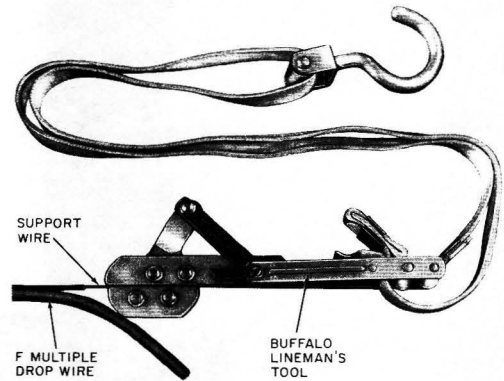
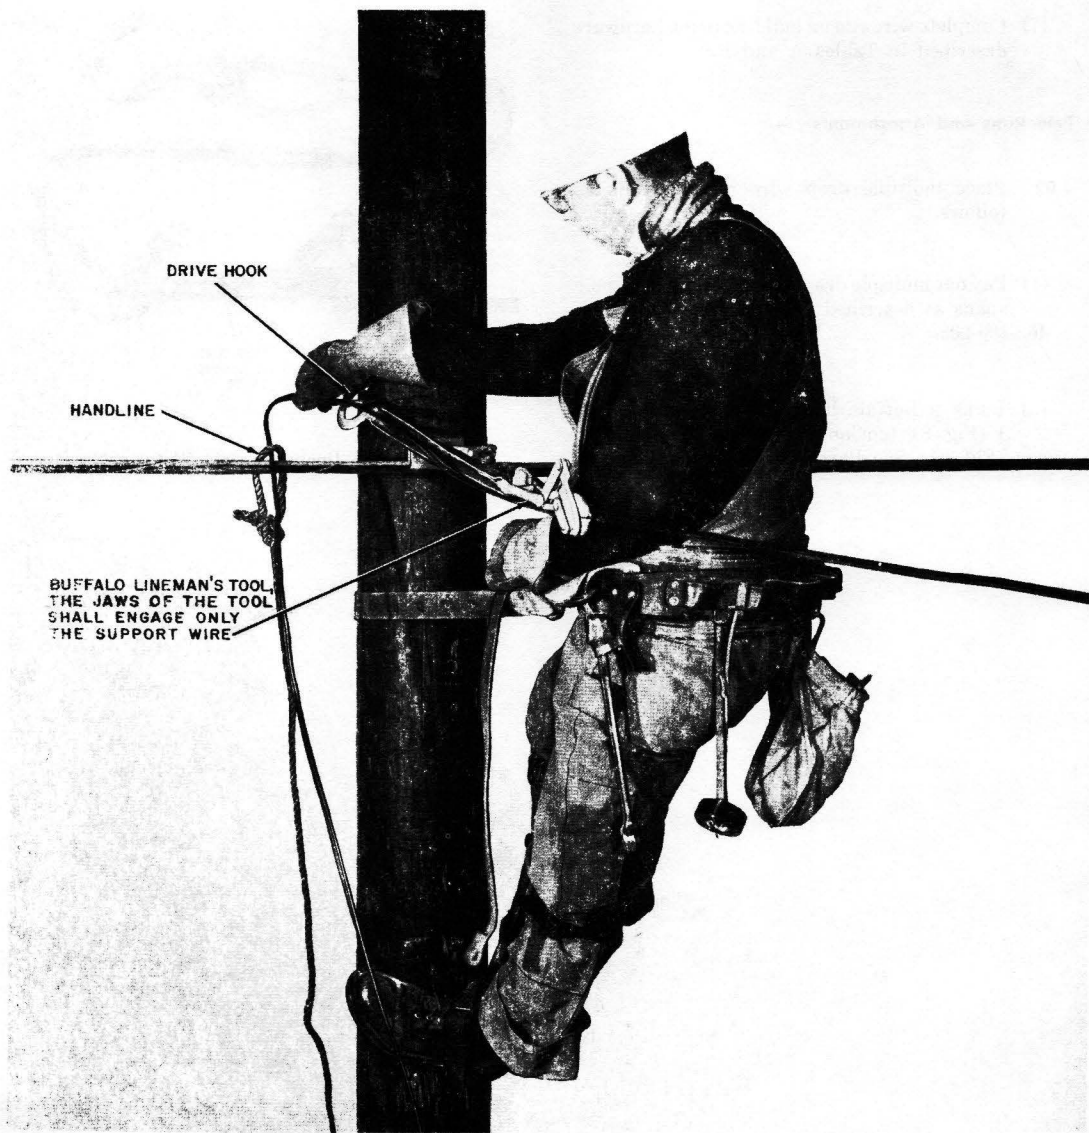

Fig. 8—Buffalo Lineman's Tool, Catalog No. 1
Fig. 9—Tensioning Wire With a Buffalo Lineman's Tool
- (1) Pay out multiple drop wire at building-to-pole spans as described for drop wire in Section 462-400-205.
- (2) Using a Buffalo lineman's tool, catalog No. 1 (Fig. 8), tension the wire to the required sag (Fig. 9). See Part 5 for stringing sags.